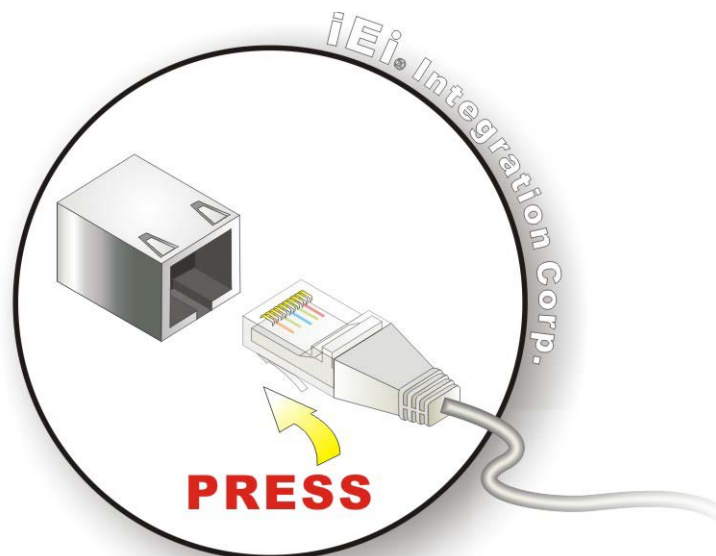

Figure 3-11: LAN Connection
Step 2: **Align the connectors.** Align the RJ-45 connector on the LAN cable with one of the RJ-45 connectors on the TANK-870-Q170 Series. See **Figure 3-11**.